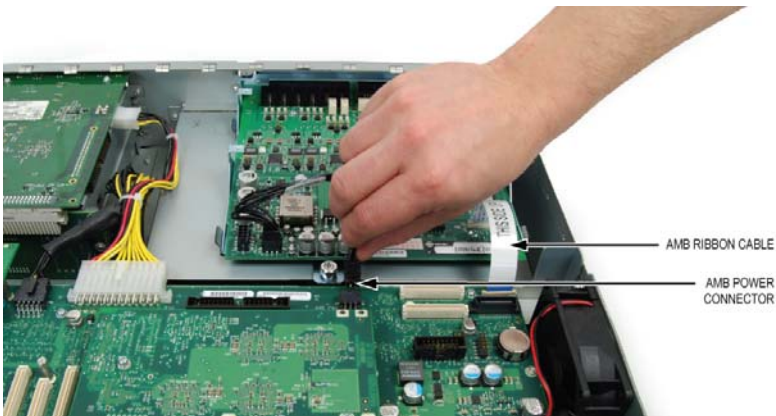

Figure 35: Disconnecting the AMB Power Connector
3. If an Analog Main Board (AMB) is present, disconnect the power cable and ribbon cable that connects the AMB to the MXe carrier board (see Figure 35).